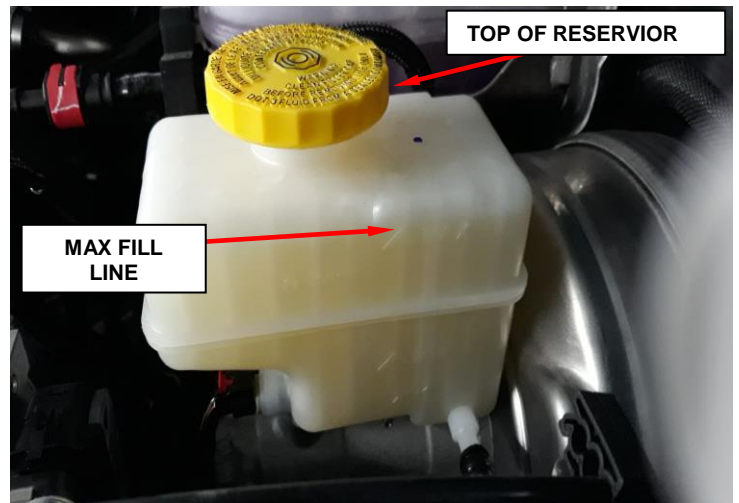

Figure 4 – Brake/Clutch Fluid Reservoir
b) Remove the reservoir cap and fill the brake/clutch fluid reservoir to **top** of reservoir (Figure 4).
- l) Lower the vehicle and top off the brake/clutch fluid reservoir to the top of the reservoir (above **MAX fill**) (Figure 4).